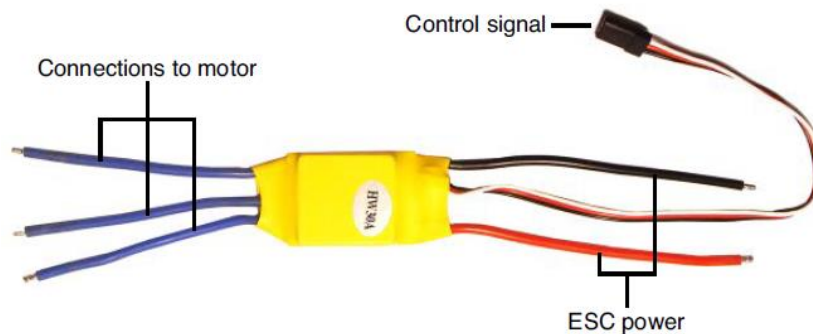

Figure 1. Example electronic speed controller for a sensorless BLDC
2. Rather than design and build custom controllers, many designers look for prebuilt circuits called electronic speed control (ESC) systems to control BLDC motors (Fig. 1). Find an ESC for BLDC motors on internet and answer the following questions.